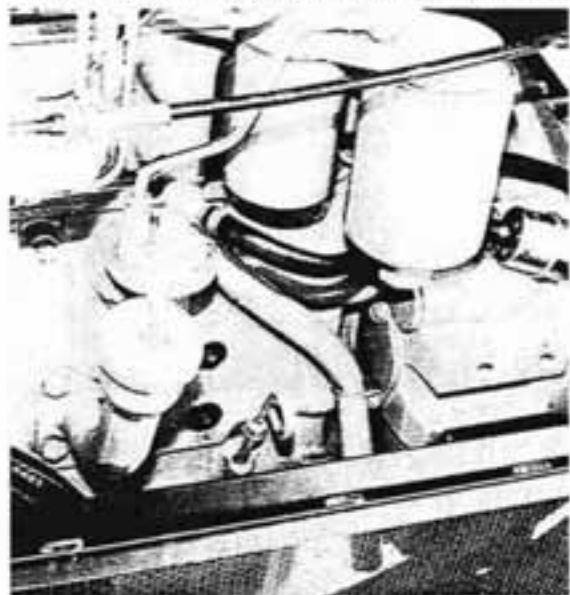

Figure 2
4. Check to be sure the SMV emblem is in place and visible from the rear (Figure 2).